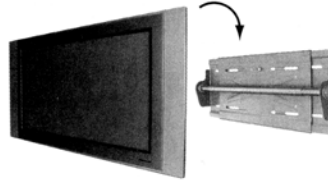

Fig. 6 - Place the display on the wall plate
1. With the help of another person, carefully lift your display and place it on the wall plate (Fig. 6).